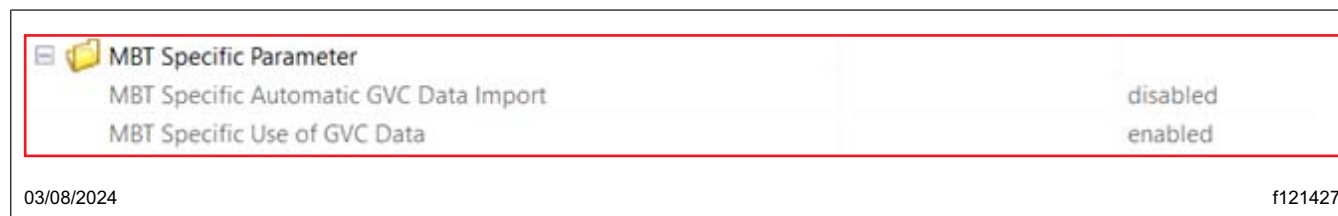

Fig. 17, Verifying the ABS File Update (Population A Only)
- 19.4 If the ABS configuration file update is successful, the 'MBT Specific Automatic GCV Data Import' should be set to **disabled**, and the 'MBT Specific Use of GVC Data' should be set to **enabled**. See Fig. 17.
- 19.5 If the parameter values on the vehicle match the values shown in Fig. 17, the update is successful. Continue to step 20.
- 19.6 If the parameter values on the vehicle do not match the values shown in Fig. 17, repeat steps 3 through 19. If the parameter values still do not match after repeating steps 3 through 19, contact Warranty Campaigns for further assistance.